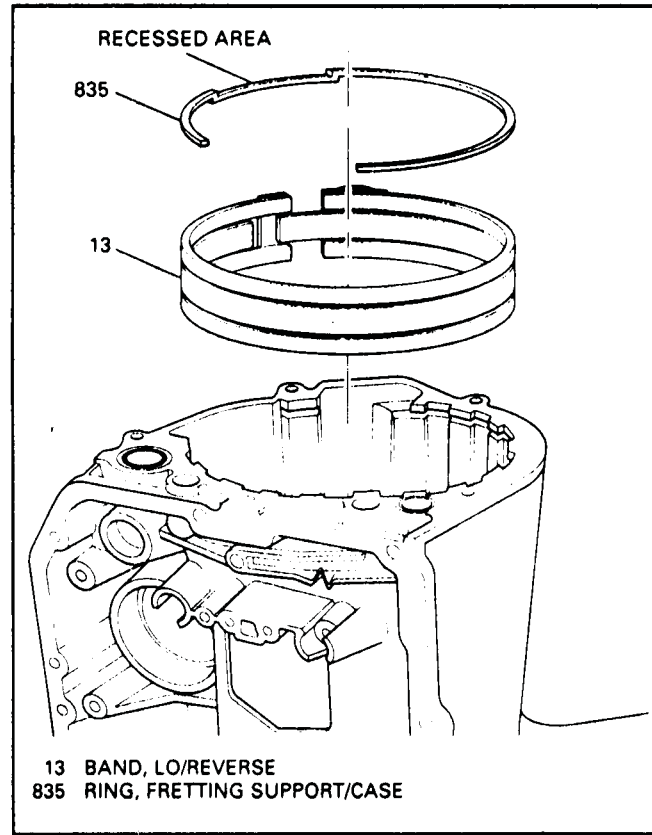

Figure 96
1. Rotate transaxle case assembly in the fixture, so that the extension housing end is facing up, Figure 96.
2. Install the Lo/Reverse band assembly into the case (See Figure 96).
4. Install the fretting snap ring (835) into the case as shown in Figure 96.
5. Keep the gap in fretting ring toward the bottom pan, with the recessed area next to the anchor pin, as shown in Figure 96.